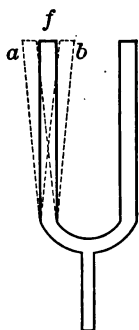

FIG. 118
**161. Sound Waves.**—The next question is, How do these vibrations cause *sound waves* in a medium? Suppose the prong *f* of the tuning fork (Fig. 118) to vibrate, flying back and forth between the positions shown by dotted lines *a* and *b*. As *f* moves towards *a*, the air in front of it is *condensed*, that is, crowded into a denser mass; as *f* swings back towards *b*, the air which it leaves on the side